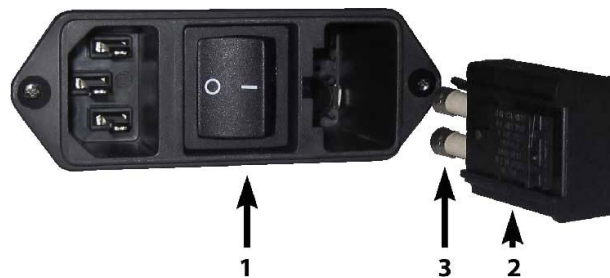

FIG 5-4
There are 4 areas on the Y-guide rail on which the tool carriage slides from left to right. Two areas (1) are visible on the front side of the guide rail. The other 2 surfaces (2) are situated on the back of the guide rail, directly behind the areas that are visible at the front. Figure 5-4 below shows these areas. Although the shape of the Y-guide rail may differ from model to model, the areas are located in the same place at the top and bottom of the guiding.